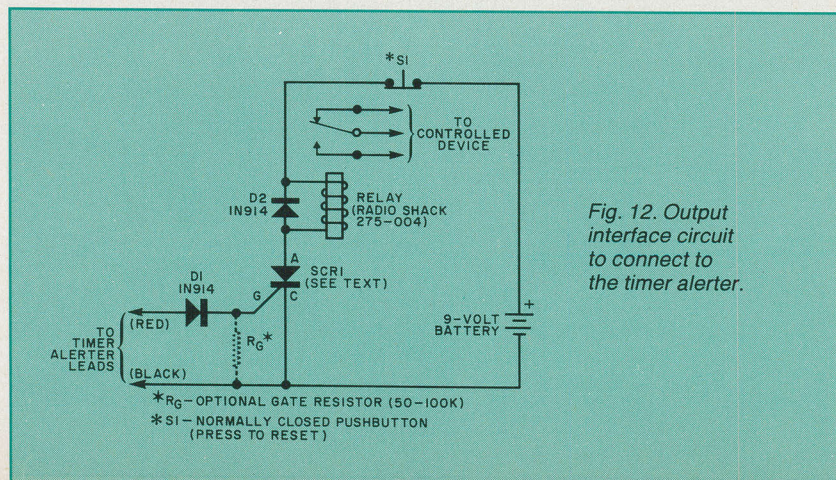

Fig. 12. Output interface circuit to connect to the timer alerter.
**An SCR Interface.** The timer alarm signal consists of approximately eight bursts per second of 125-microsecond pulses having a 2.4-volt peak-to-peak amplitude. The pulses have a frequency of 4 kilohertz. Figure 12 shows a simple SCR interface that switches on upon arrival of the first pulse and remains on until manually reset.
Recently I've seen advertisements from three other companies showing timers having an almost identical appearance to the West Bend unit, but selling for as much as \$29.95! You may be able to modify these and other digital timers with the help of the circuit in Fig. 12. In any case, shop around for the best buy. You may save more than enough to pay for the interface circuit . . . and possibly enough to buy a second timer!